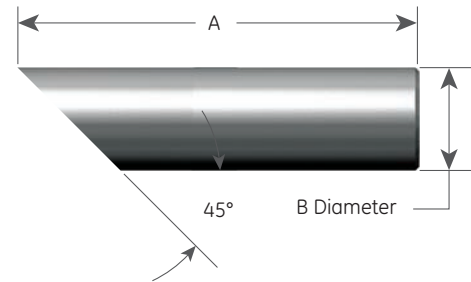

Figure 85: Drift Pin Specifications
4. **Drift Pins:** Two drift pins are required for the removal of the disc from the disc holder. Refer Figure 85 and Table 19 for Drift Pin specifications.